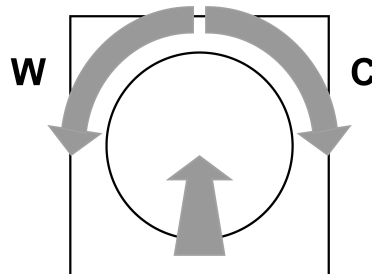

Figure 2
When saving the colour temperature, you must ensure that the last turn of the pressed control knob (see figure 2) is made to the left for the warmest light colour (W) and to the right for the coldest light colour (C).
- Turn pressed control knob to the left (W) until reaching the warmest light colour required, and hold it in this position for more than 10 seconds.